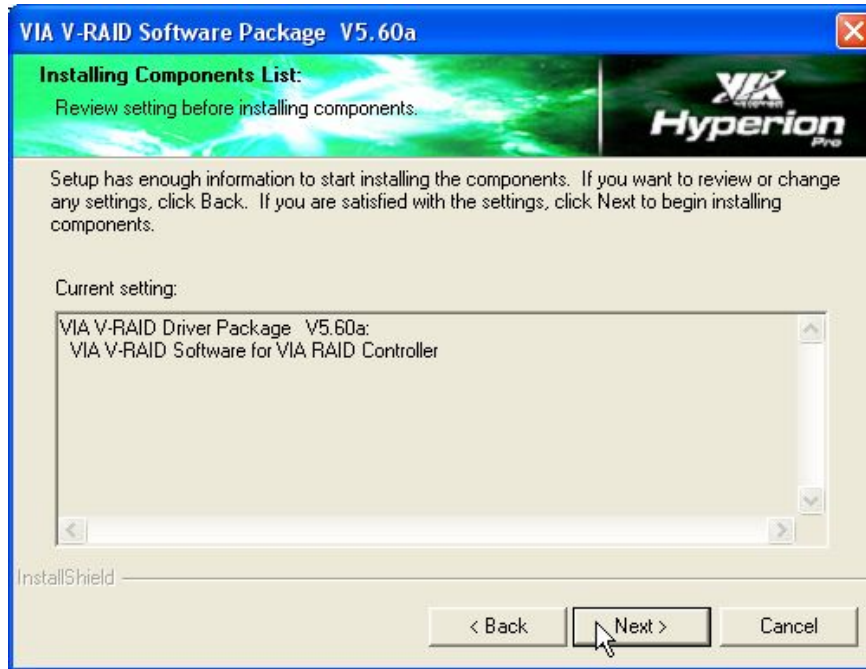

Figure 7-33: Confirm the Installing Component List
Step 7: Confirm the components to install by clicking **NEXT**. (Figure 7-33)